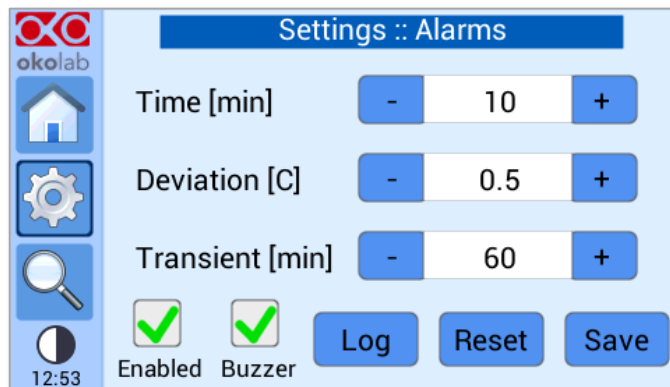
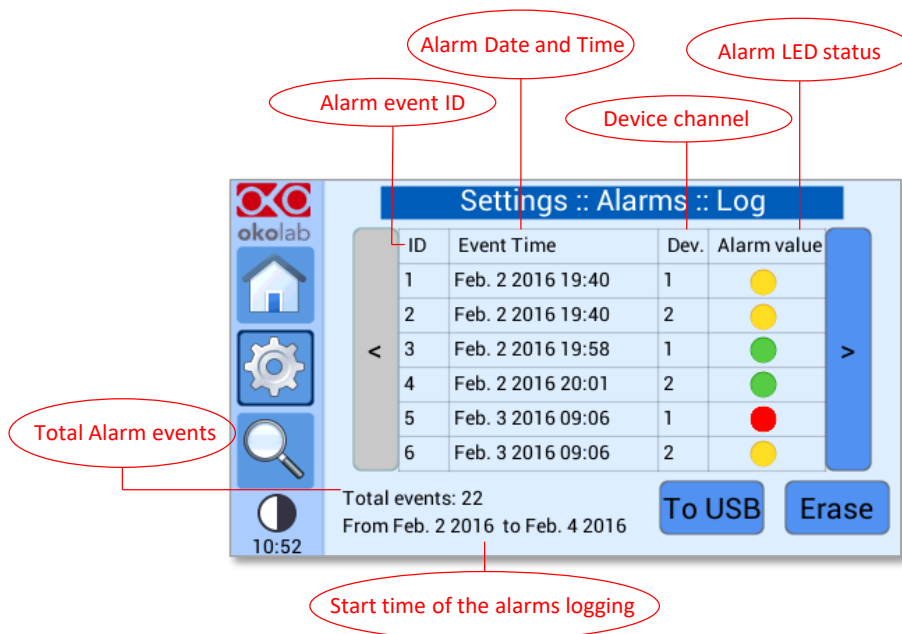

Figure 61. How to enter in alarms logging page
Figure 62. Logging alarms page
**Note** ► By Pressing on Log (see Figure 61), you can view all the times that the status LED of the two devices have changed color (see Figure 62).